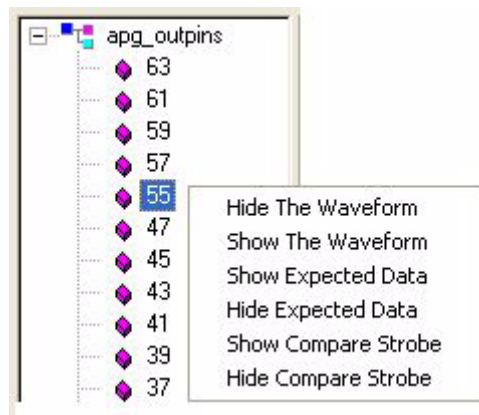

Figure 6-74. Selected Pins Pop-Up Menu
- 8** Selecting items in the tree view pane displays a pop-up menu that provides additional display options (Figure 6-74).